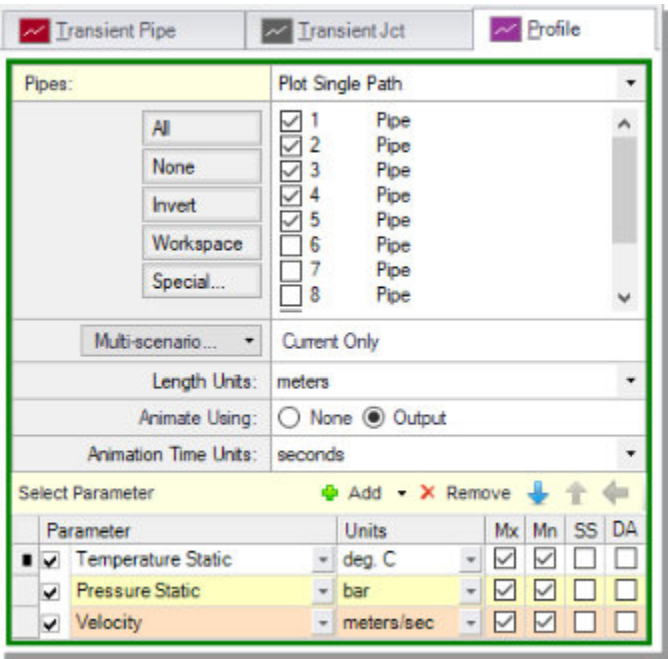

Figure 3.10 Graph parameters for Combustion Basket #1 animated profile
► **Specify the following graph settings** (Figure 3.10):